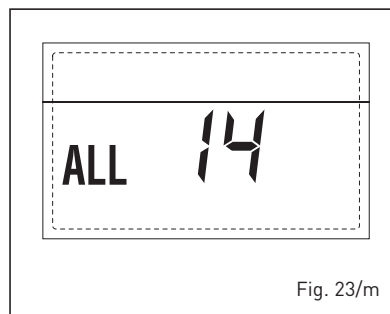

Fig. 23/m
**- ANOMALIA DO VENTILADOR "ALL15" (fig. 23/n)**